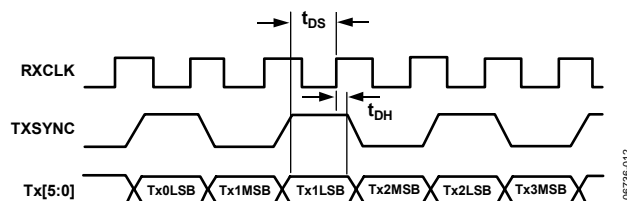

Figure 12. Tx[5:0] Port Full-Duplex Timing Diagram
- Data from the Tx[5:0] port is read on the rising edge of this sampling clock, as illustrated in the timing diagram shown in Figure 12. Note that  $\overline{\text{TXQUIET}}$  must remain high for the reconstructed Tx data to appear as an analog signal at the output of the TxDAC or IAMP.